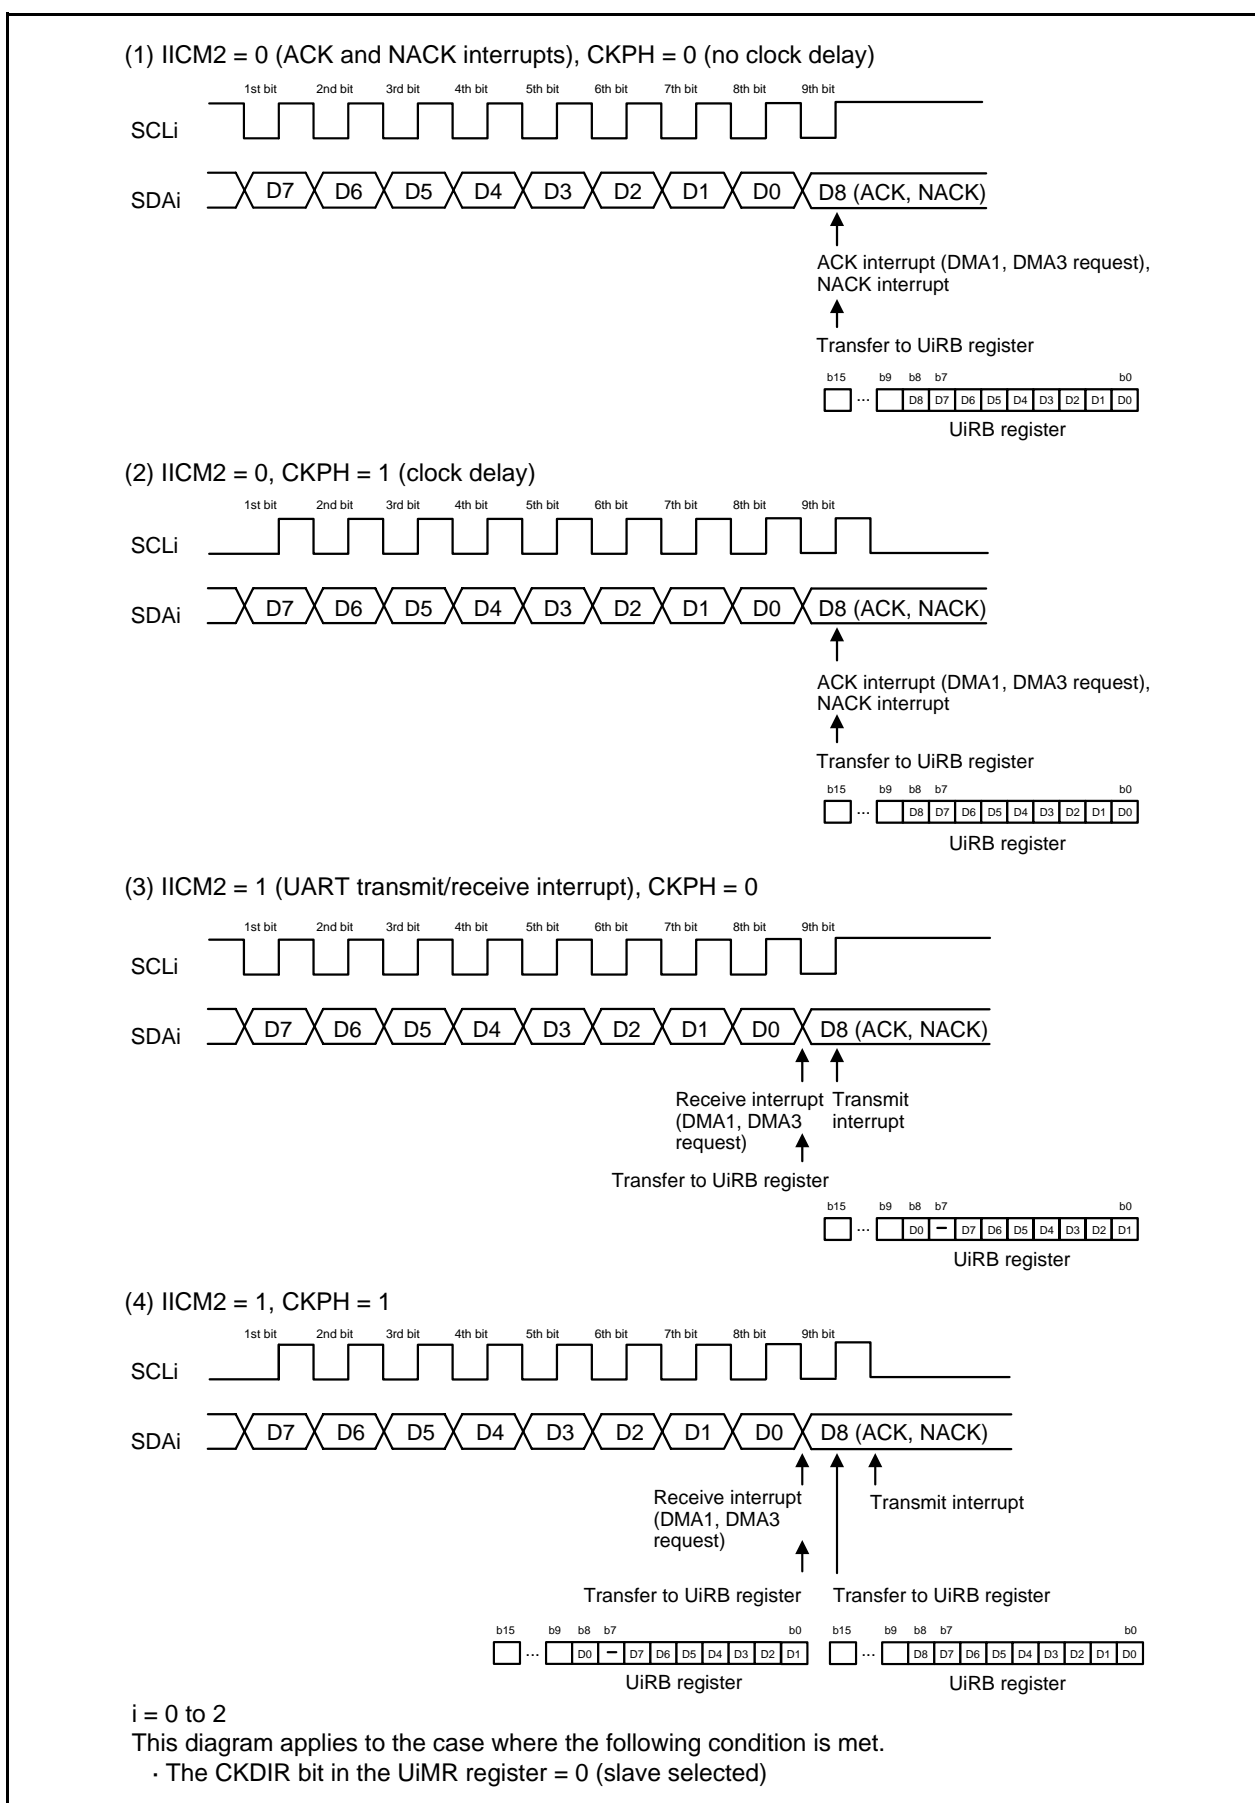

Figure 13.28 Transfer to UiRB Register and Interrupt Timing
6. Refer to **Figure 13.28 “Transfer to UiRB Register and Interrupt Timing”**.
The transfer clock is used to transmit and receive data as is shown in **Figure 13.28 “Transfer to UiRB Register and Interrupt Timing”**.